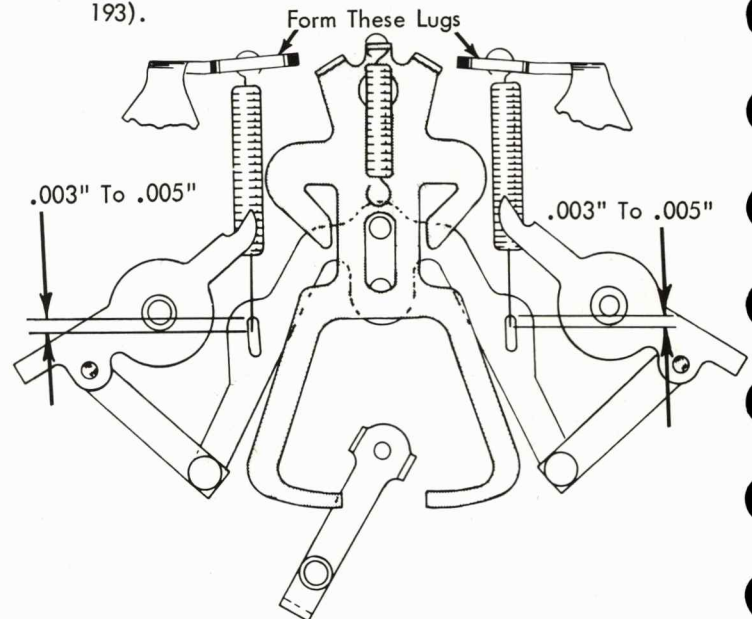

FIGURE 193. Centering Springs Adjustment
1. Centering Springs - With the ribbon reverse interposer centered, form the lugs of the ribbon feed plate for .003" to .005" clearance in the centering spring loops (Fig. 193).